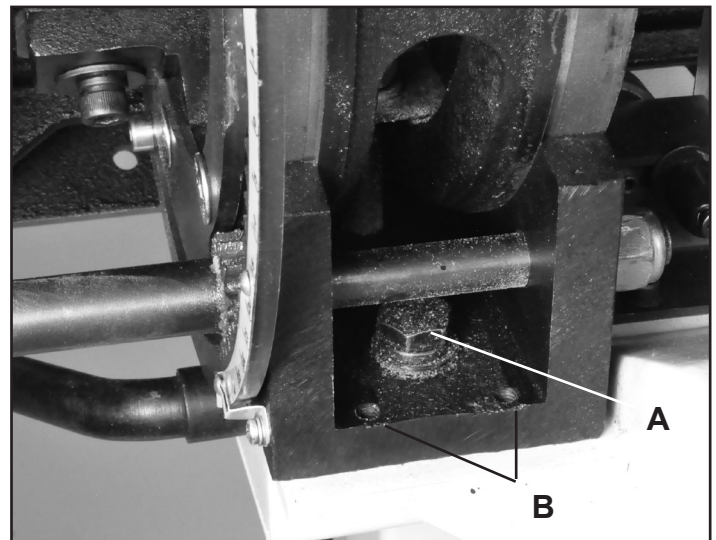

FIGURE 14
1. On the lower Trunnion Support (#18B), slightly loosen the two Hex Bolts (#14B) that hold the support to the bandsaw frame. Fig. 14, A.
3. Using the 3mm hex wrench, turn the rear trunnion micro adjusting hex screws (#17B) to adjust the table position. Fig. 14, B.